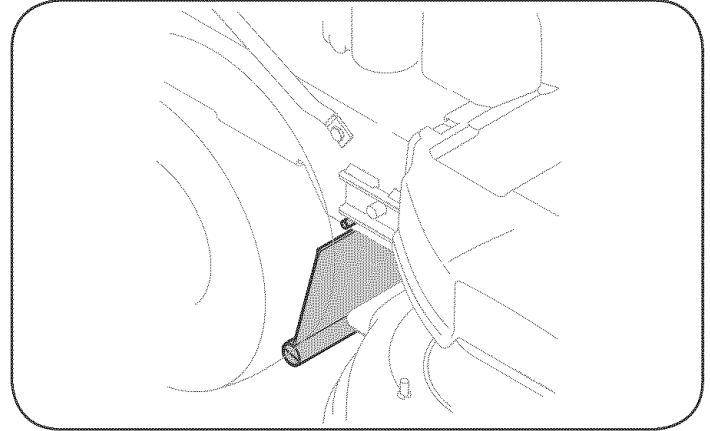

Figure 19
1. Bend (bow) the trailing shield inward on each side to release tabs from the holes in the mower frame, Figure 19.